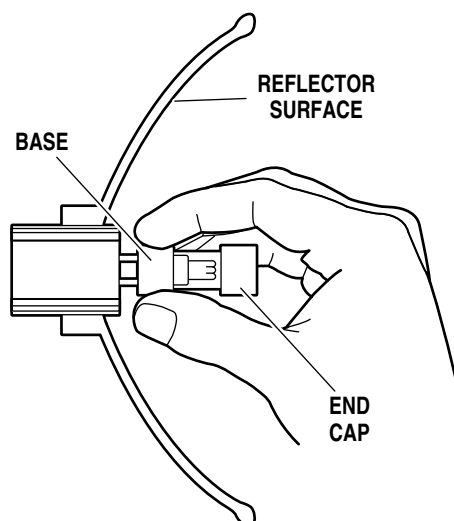

Figure 19.
2. Using caution not to touch the reflector surface, hold the bulb by the base and pull it out. See figure 19. Slightly working the bulb back and forth may aid in bulb removal.